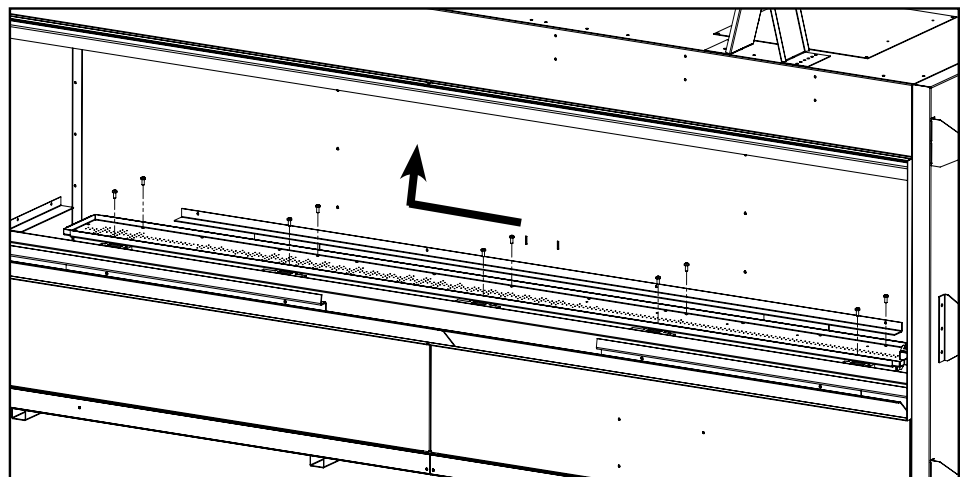

Figure 6. Removing Burner
6. Remove the ten T-20 screws securing the burner pan as shown in Figure 6; do NOT remove the other T-20 screws. Once the specified screws are removed slide burner to the left and lift out to remove.